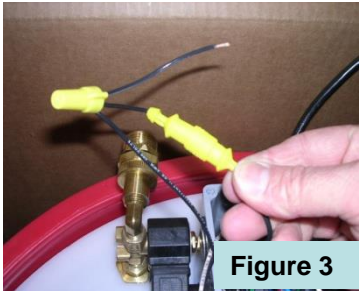

Figure 3
- Tighten wire nut keeping remaining wires in place. Should be three black wires- one that goes to the fuse holder, another to the lamp, and the wire cut in above step (See Figure 3).